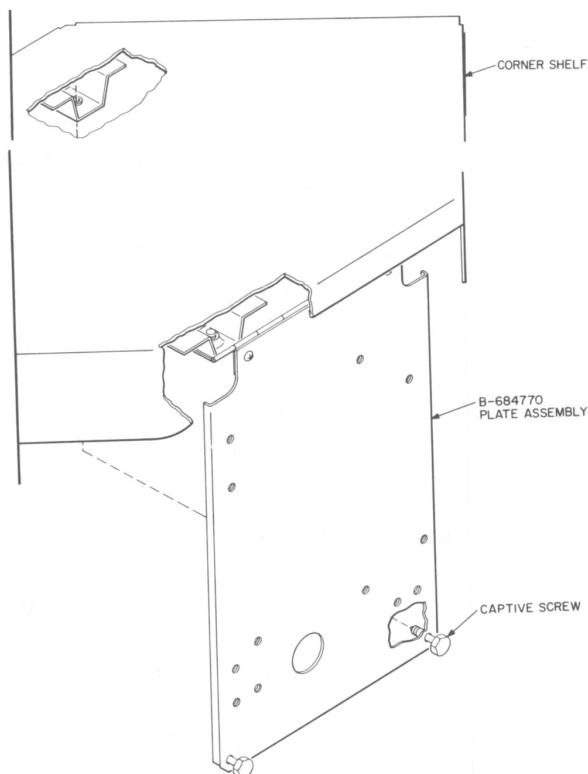

Fig. 6—Subscriber Set Mounting Bracket
2.18 If a subscriber set is required, a hinged mounting bracket for this purpose is located under the corner shelf. (Fig. 6).
| KS-19580 | 21 | 8, 9, and 10 | Shelf | Corner shelf. Furnished with all KS-14611 booths. Contains sub set mounting bracket (Fig. 6). |